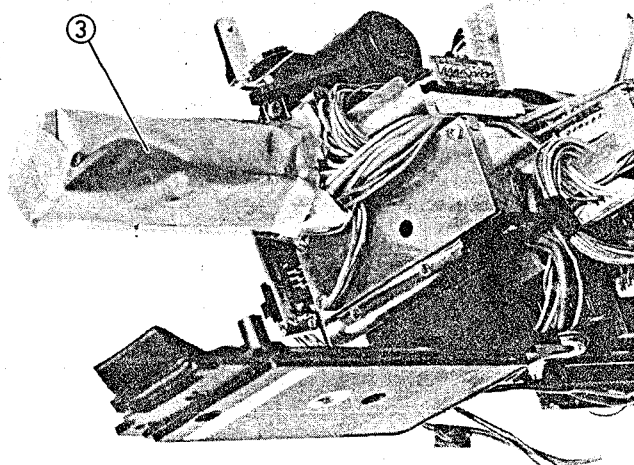

Fig. 2-120 Saticon Removal
Saticon Removal (Figs. 2-120, 2-121, 2-122)
3. Strip the saticon shield. (See Fig. 2-120)